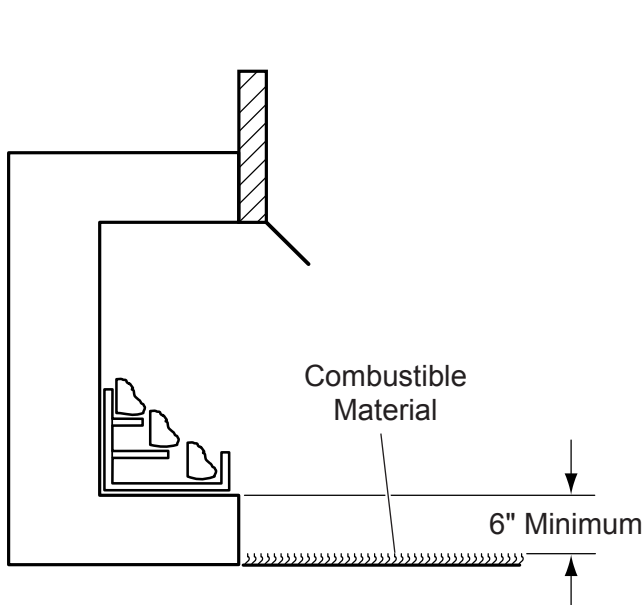

Figure 5 - Minimum Clearance above Combustible Flooring
4. **Floor clearance:** This inner chamber firebox floor must be installed at least 6" above any combustible flooring material, such as carpeting or asphalt tile, which is closer than 14" to the base of the firebox. See Figure 5.